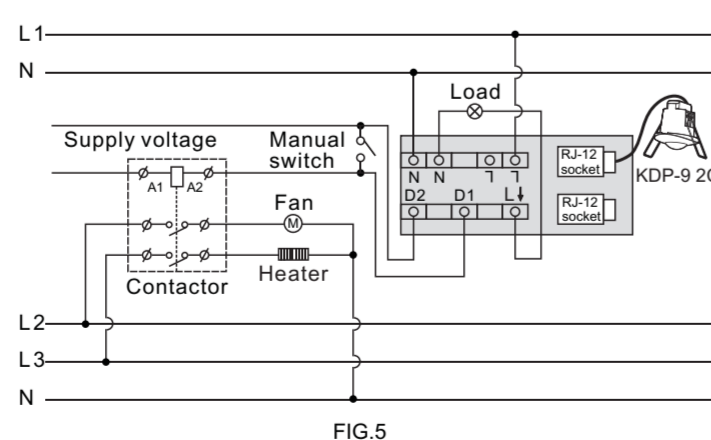

FIG.5
- KDP-9 2C to power box (Srr FIG.5).